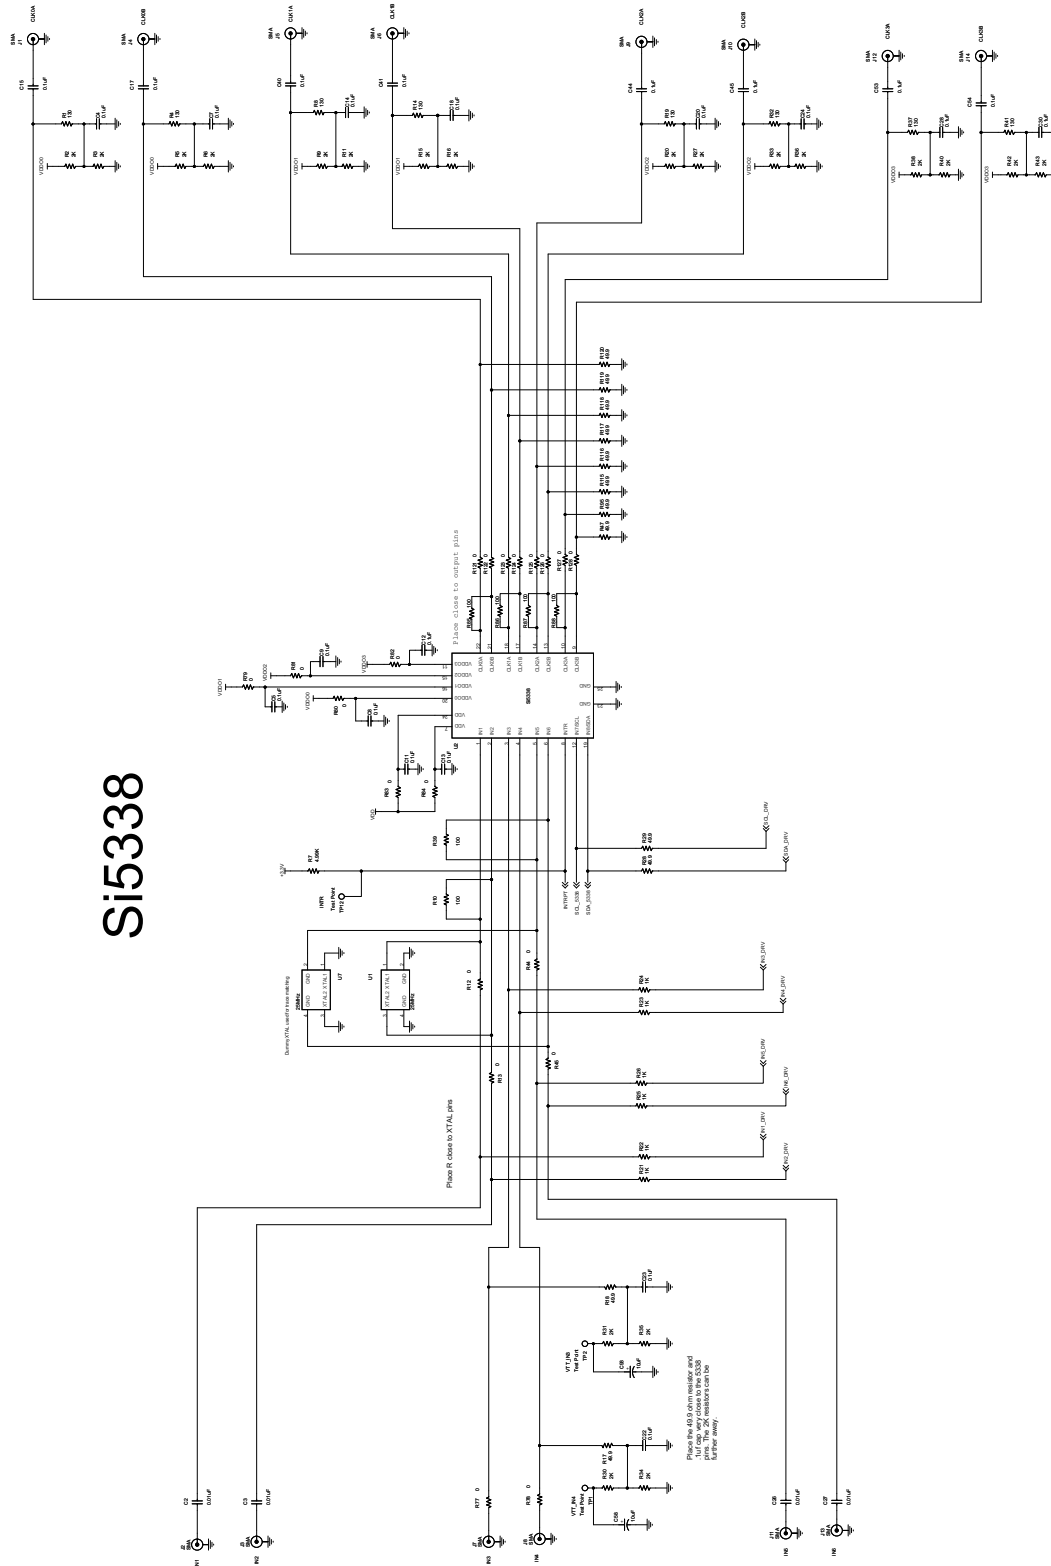

Figure 3. Si5338-EVB Main Schematic
- Updated Figure 3 on page 6.
- Updated Figures 3, 4, and 8.